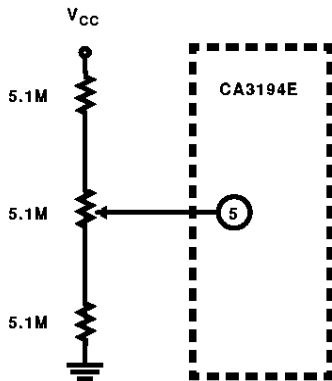

FIGURE 17. KILLER-THRESHOLD LEVEL CONTROL
1. If a different value is desired, see the Threshold Adjustment Circuit of Figure 17.